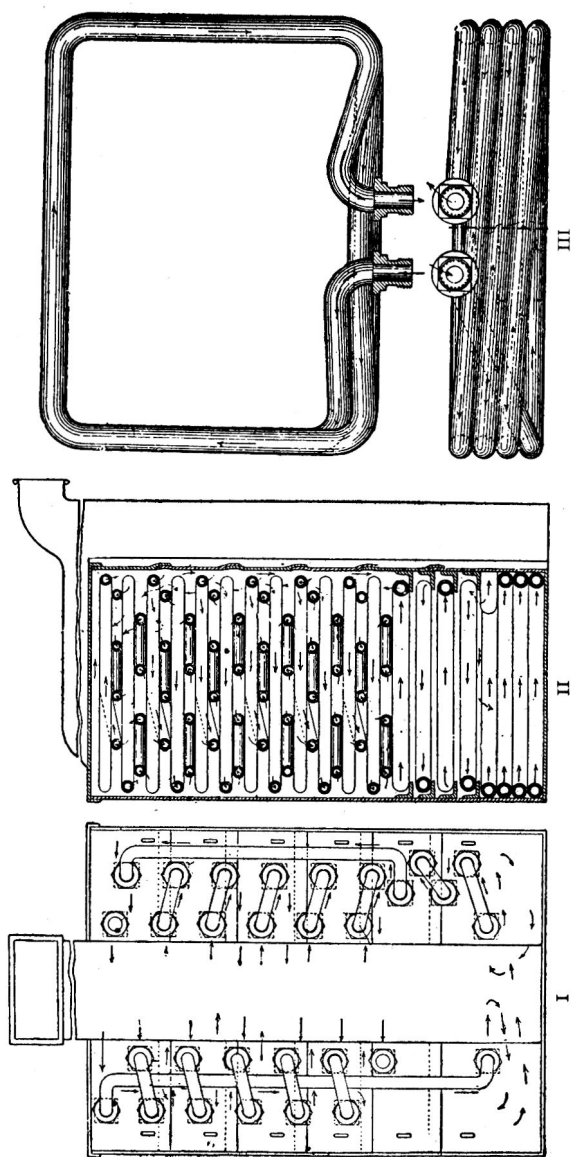
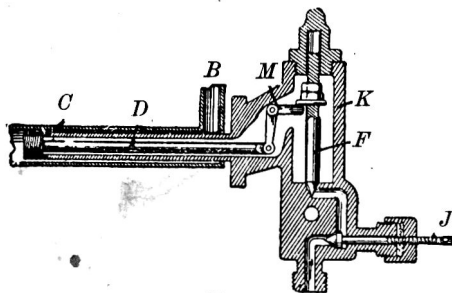

FIG. 40.—THE GARDNER-SERPOLLET FLASH-GENERATOR (FRENCH).
**FIG. 41.—WHITE SEMIFLASH BOILER CONSISTING OF ELEVEN TUBES (1-11) OF SOLID-DRAWN STEEL TUBING WITH ONE-QUARTER OF AN INCH BORE.**
Utilizing the principle of Serpollet's invention, several designers of automobiles have produced "improved boilers" along similar lines. Serpollet's first generator was simply a coil of flattened tubing; then two such coils were used, and lastly, a complicated series of coils and twisted tubing (see Fig. 40). In these the water was fed to the lowest tier, the steam being collected at the top. A directly opposite plan is followed in the most efficient flash-generators of other inventors (see Fig. 41), the water being introduced at the top and the steam superheated in the lowest coils. Thus the course of the water is always from a lower to a higher temperature, and absolutely dry steam is assured. With tubes of sufficient capacity, the flash-generator offers advantages in quick steam, high pressure, and immunity from scale, priming, and explosion, which are unsurpassed.
*P* is a casting with its upper surface formed into ridges, with numerous slits across them. This and the metal pan on which it rests (Fig. 41) form an open space, into which vaporized gasoline and air are injected through the cone, *A*, then issuing from the slits. Auxiliary air passes from beneath through tubes *B*. The vaporizer, *O*, is heated by the burner when lit; in starting it is heated by a plate fixed to it immediately above the pilot-lamp *Q*. The thermostat, *C*, is carried by the casting, *K*, and consists of a brass tube, *C*, enclosing a steel rod, *D*, connected by a bell-crank, *E*, with needle *F*. When temperature passing around *C* reaches a certain point, expansion causes *D* to draw away from *K*, and consequently *F* reduces the feed of gasoline. The driver can regulate the flow of gasoline to burner by valve *J*.